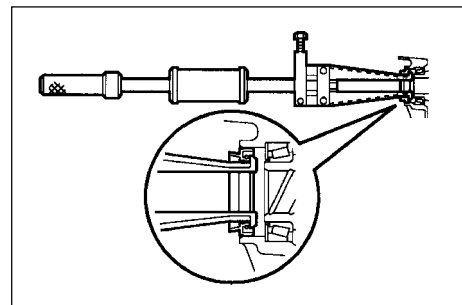

Figure 6-8
1. Remove the oil seal of the transaxle housing with special maintenance tool (see Figure 6-8).